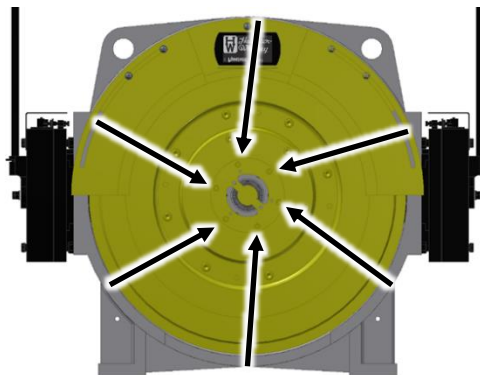

Figure 35
7. Install the six M6 bolts using the hex wrench (5mm). See Figure 35.